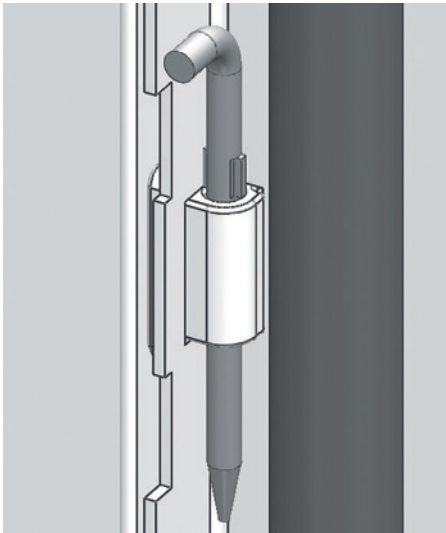

Fig.3.1:Correct positiont
- Check that all bolts from the door hinge are positioned as shwon in Fig.3.1